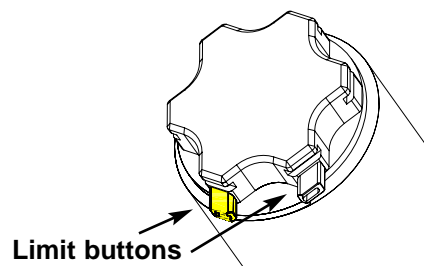

Figure 18. Motor head with limit button
1. Remove the yellow cap on the star-shaped motor end. Refer to Figure 18.